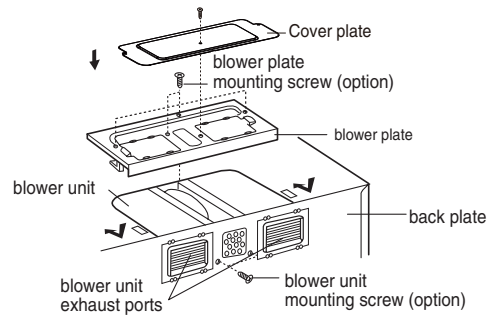

Figure 18
7. Reattach the blower plate to cabinet so the exhaust ports and blower plate opening are aligned. Attach with one blower unit mounting screw and then one blower plate mounting screw. Reattach the cover plate on the blower plate with screw. See Figure 18.